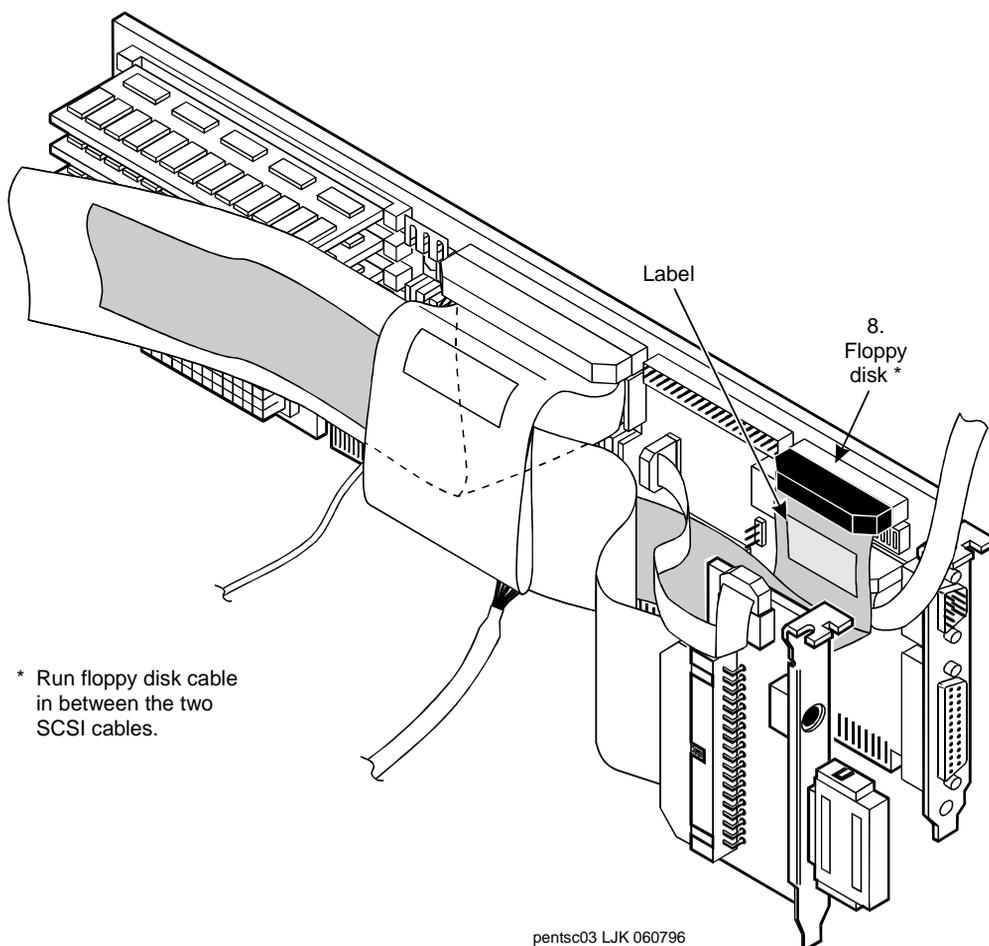

Figure 5-25. Attaching Cables to the P5 120 MHz CPU Circuit Card - Part 3
16. Attach the diskette drive cable to the diskette drive cable pins on the P5 120 MHz CPU circuit card (Figure 5-25).
The diskette drive cable has a label which contains the following message (Figure 5-25):
17. Dress this cable through the SCSI cable and beneath the external SCSI connector circuit card (Figure 5-25).